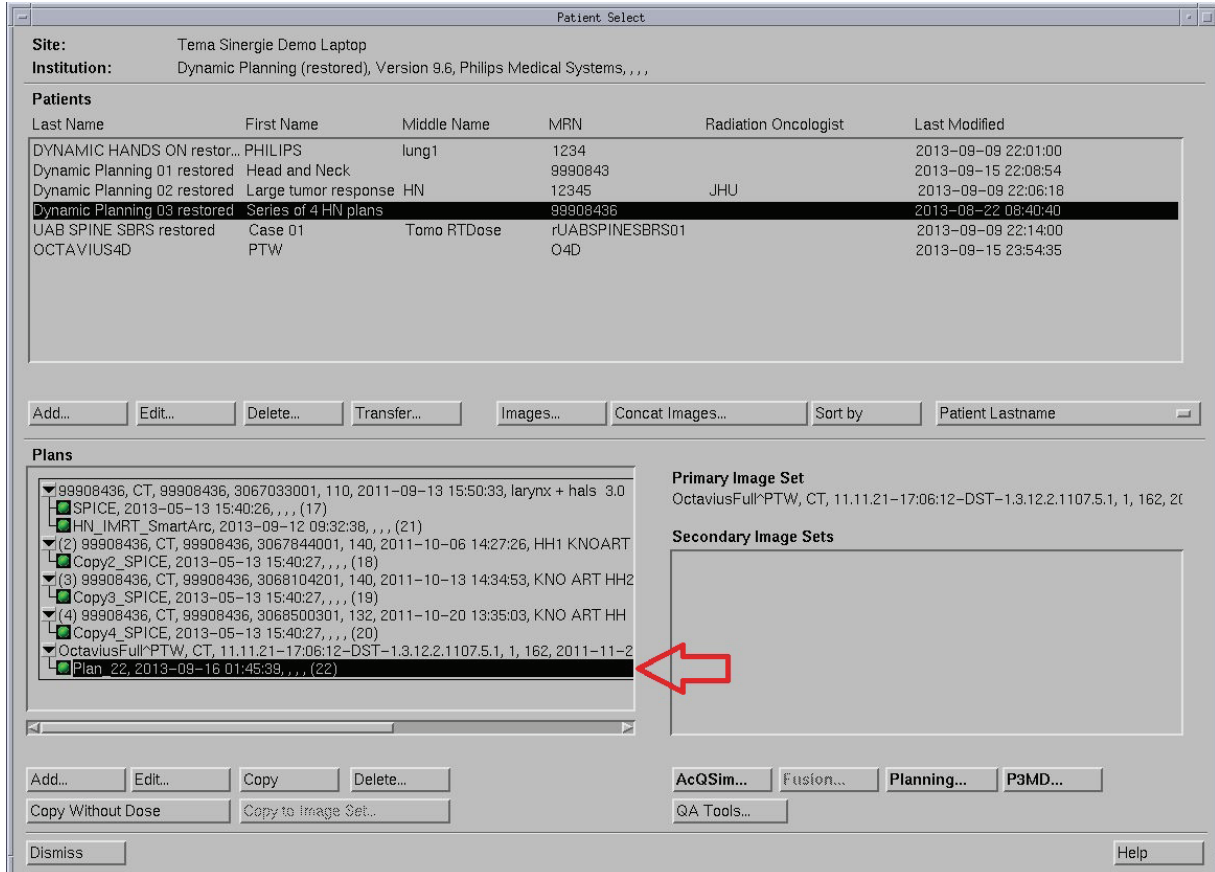

Fig. 4.5 Validation plan
5. A new plan is added to the plans list (Figure 4.5). This new plan is the result of copying the patient plan to the phantom plan and is the plan to be used to validate the patient plan.
1. In the **Patient Select** window, select the plan which was created after having copied the patient's data to the phantom (Figure 4.5). Then click the **Planning** button.